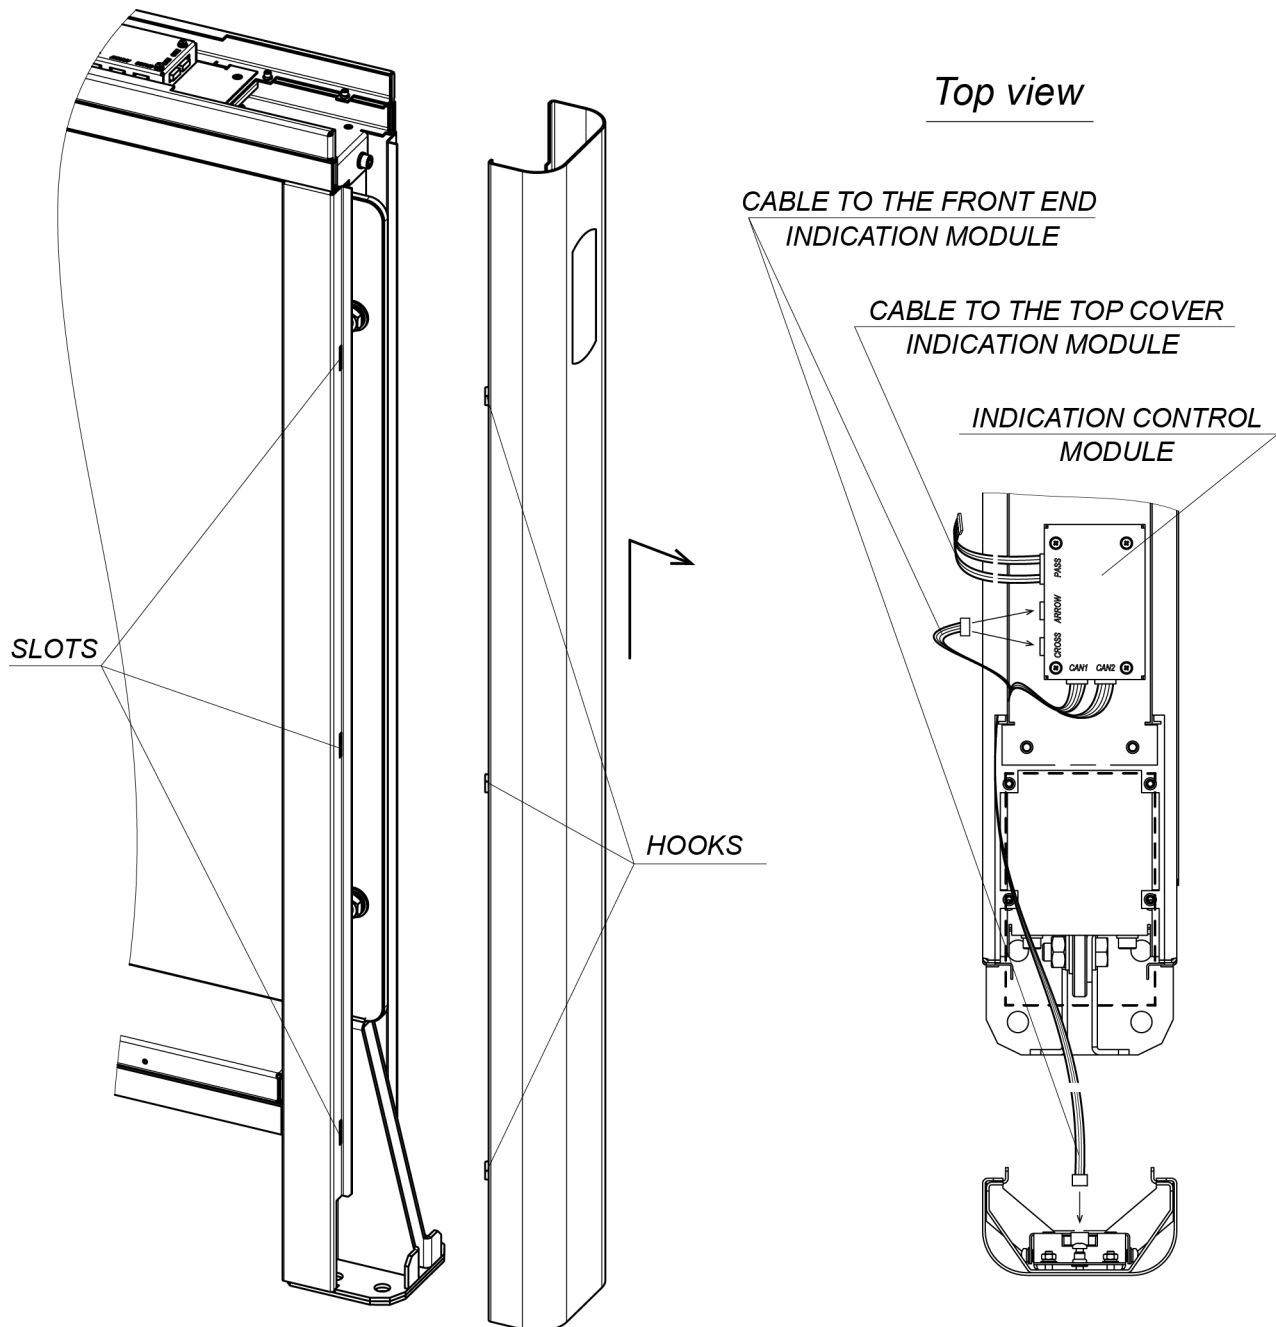

Figure 22. Removal of the front panel of the side post
21. If needed, access card readers can be installed either on the special shelves inside the top duct at the ends of the post (see Fig. 22) or directly on the section top covers from below. Use double-sided adhesive tape to fix readers and, if needed, non-metal pads for the reader to be placed as close to the top cover as possible in order to increase its operating range. Carefully route reader cables through the top duct and the central post to the ACS controller cable inlet by using standard slots in the section housing parts. Cables must not be laid between or near the holes used for fastening the section top cover. This will protect the cables from damage. Use self-adhesive cable tie mounts for cable fastening. It is prohibited to fix cables to the internal wiring cables and to the control boards of the intrusion detectors. It is also prohibited to route cables near the boards where the detectors are located.
24. Mount front panels (8) of the side posts in the required places (Sect. 8.9.2). After installation, make sure that the top edges of the panels are flush with the section housing. The front-end indication block panel is to be installed at that end of the section where the indication control module is located. This module is fixed to one of the two steel protection plates in the top duct (see Fig. 22). In addition, the front indication block is to be connected to the indication control module with a relevant connection cable. The connection cable connected to the **ARROW**
connector of the indication control module will activate the display of the white arrow on the front indication block. The cable connected to the **CROSS** connector will activate the display of the red cross (Sect. 5.2.2, 8.9.2, Fig. 22).
Remove the side post's front panel (8), moving it up along the post and then pull it towards yourself, bringing the panel hooks from slots in the side post (Fig. 22). Be careful not to damage the connection cable! Disconnect the cable connector from the board of the indication block.
Prior to the installation of the section top cover (10), check whether all required connection cables have been properly connected to the indication control module (see Fig. 22, Sect. 8.9.2).
- Connect the connection cable from the indication control module (PASS connector, Fig. 22) to the top cover indication block (for **STC-01G, SDC-01G**).
- Take one glass part of the top cover featuring an indication block and connect the connection cable of the indication control module (PASS connector, Fig. 22) to the top cover indication block.